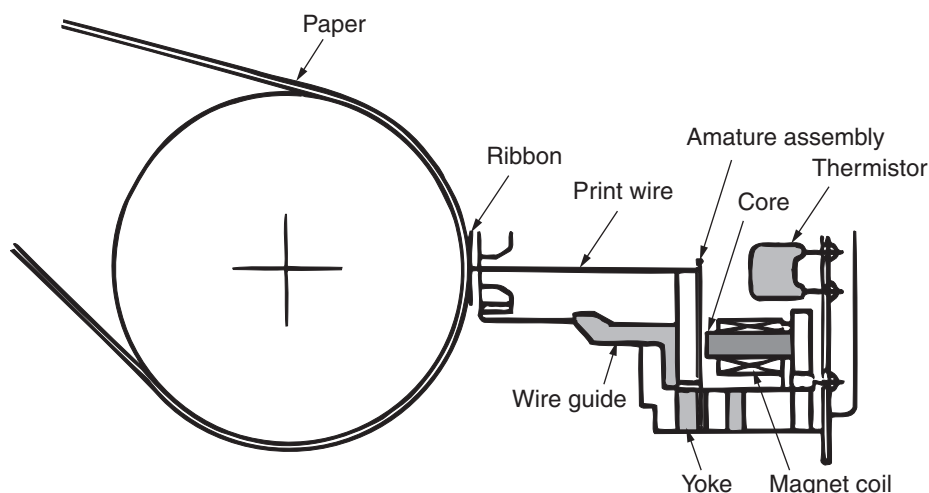

Figure 2
2.3.1 The Print head Mechanism and Its Operation (See Figure 2)